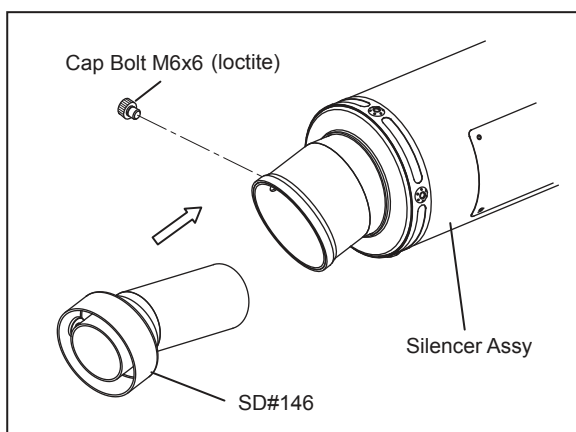

FIG. 5
- 5) Install SD#146 with Cap Bolt M6x6 if necessary (See Fig. 5).